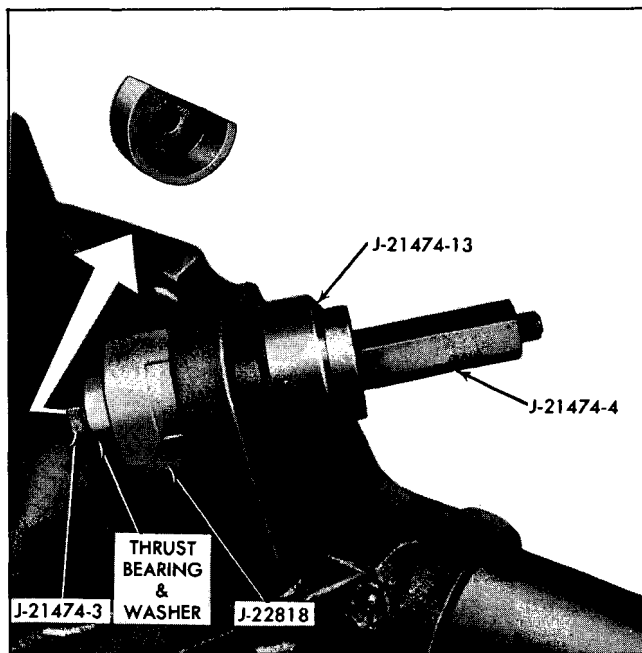

Fig. 4-31 Installing Upper Control Arm Rear Bushing (Coil Spring Suspension)
1. Install bushing in axle housing by arranging tools as shown in Fig. 4-31 and press into place.